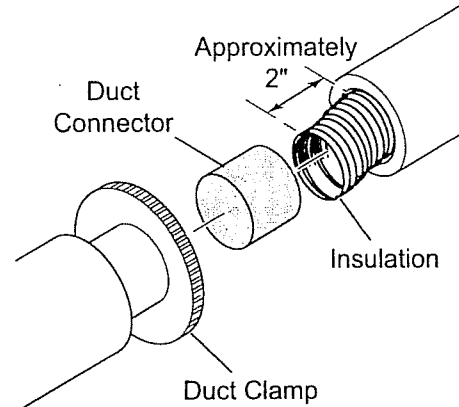

Figure 21 - Installing Duct Connector 403
7. If the duct is the insulated type, push the insulation back from one end of the duct approximately 2". See Figure 21.